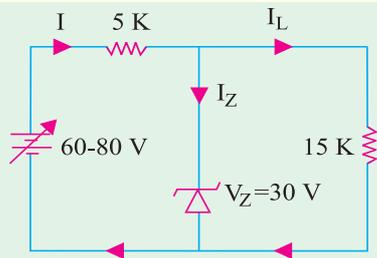

Fig. 54.39
4. Using ideal Zener diode approximations, find the minimum and maximum currents through the diode in Fig. 54.39. [4 mA, 8 mA]